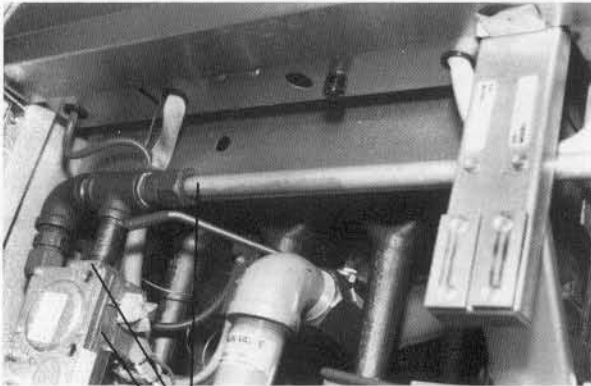

Figure 24
12. Remove gas line from gas valve (Fig. 24).
13. Disconnect wire assembly from top of gas valve (Fig. 24).